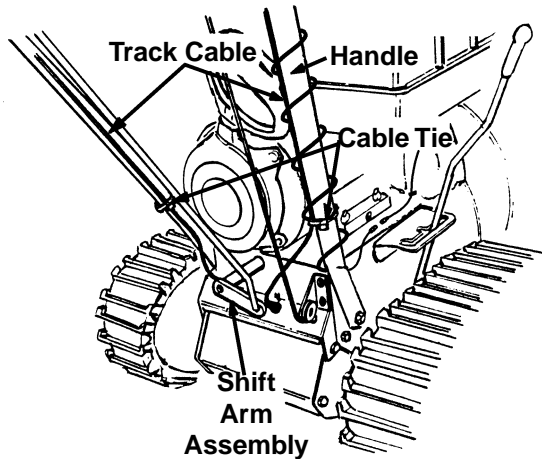

Figure 12
5. Secure the track control cables to the inside of the lower handle using the cable ties provided. Pull the cable ties tight, and trim the excess ends of the cable ties. See figure 12.